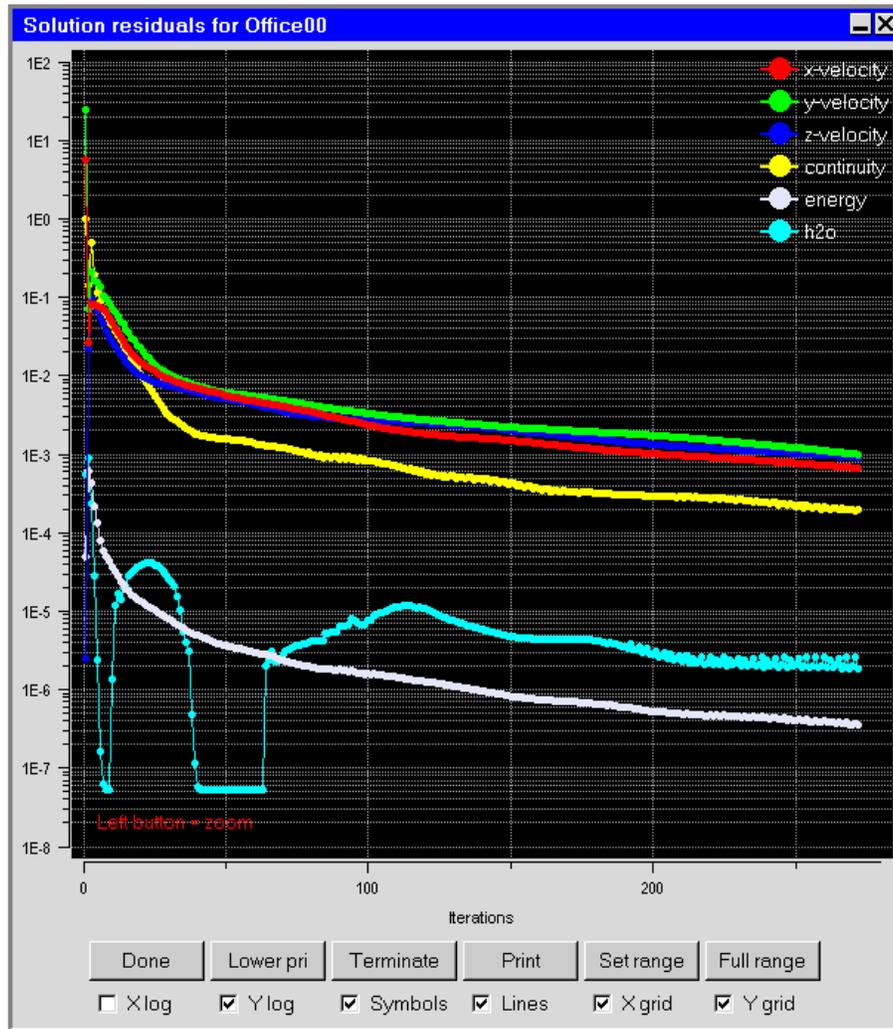

Figure 1.9: Residuals
Upon completion of the calculation, your residual plot will look similar to Figure 1.9. Note that the actual values of the residuals may differ slightly on different machines, so your plot may not look exactly the same as Figure 1.9. In the window where the residual values are printed, the calculation will continue after the residual plot stops, as the equations for radiation and mean age of air are solved.
4. When the solution is completed, as in Figure 1.9, close the **Monitor** window by clicking **Done**.